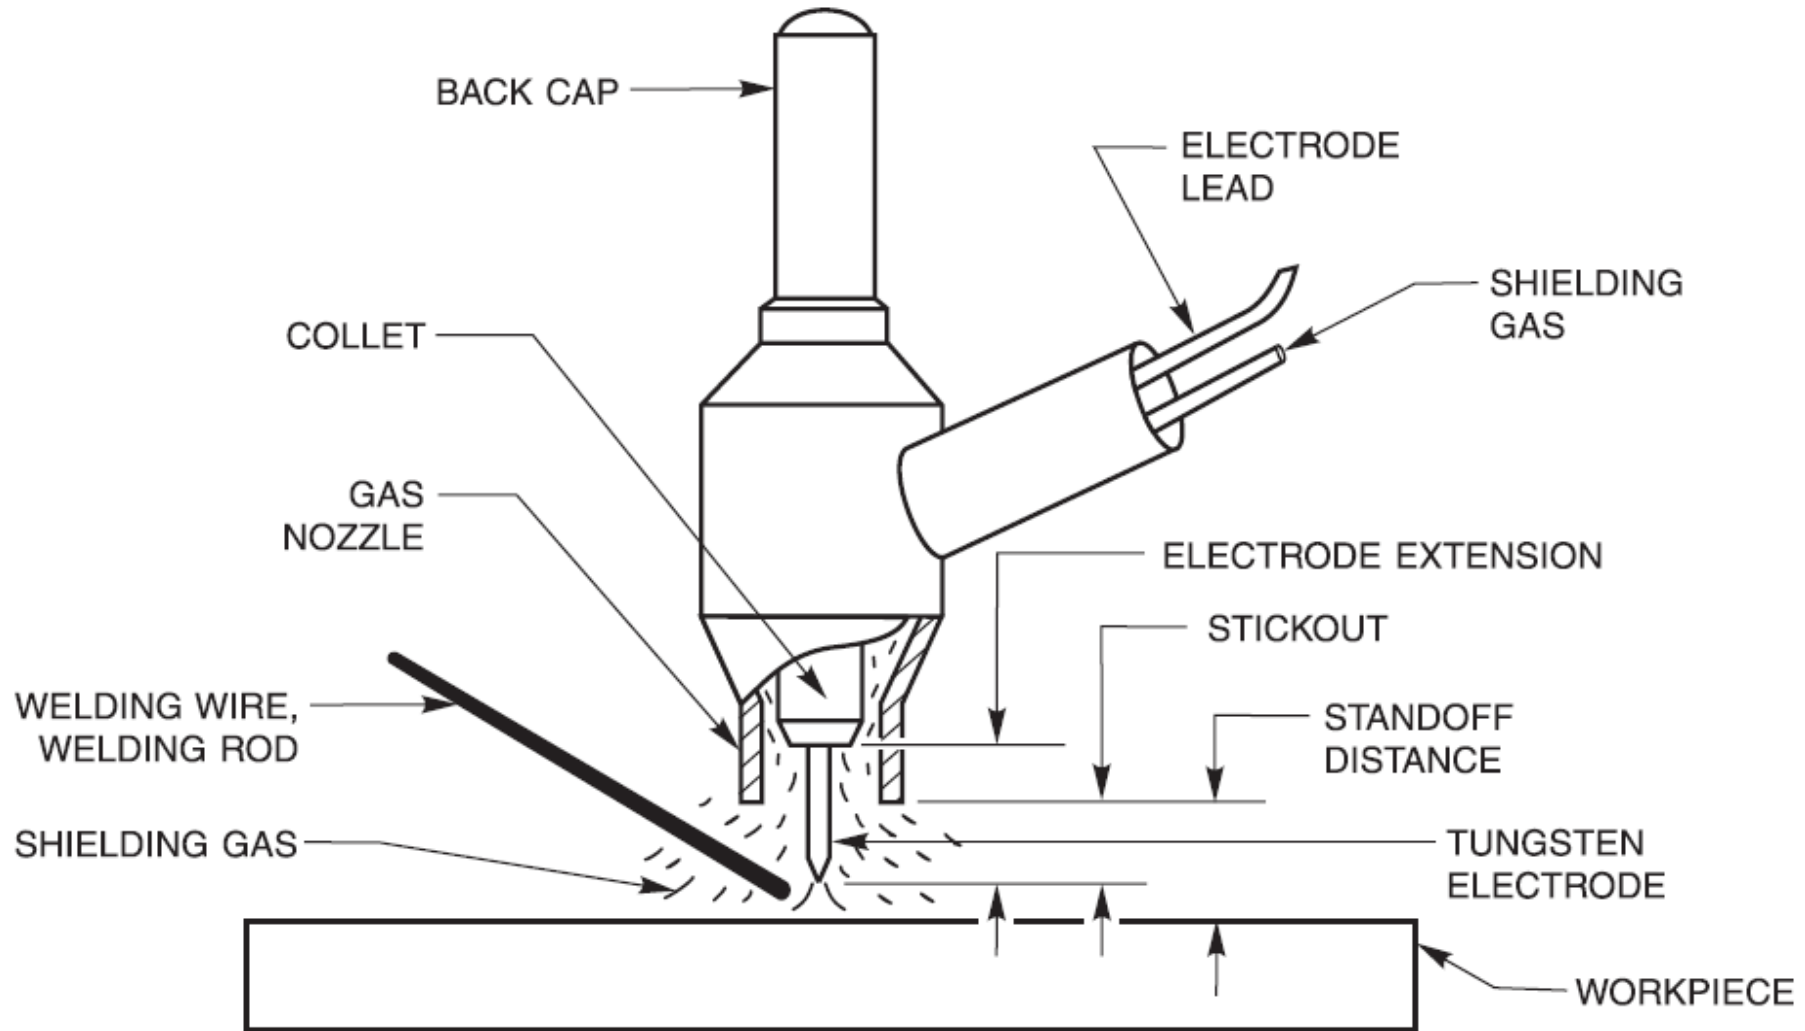

Figure B.36—Gas Tungsten Arc Welding Torch Nomenclature
**gas tungsten arc welding (GTAW).** An arc welding process using an arc between a tungsten electrode (nonconsumable) and the weld pool. The process is used with shielding gas and without the application of pressure. See also **hot wire welding** and **pulsed gas tungsten arc welding**. See Figure B.36.